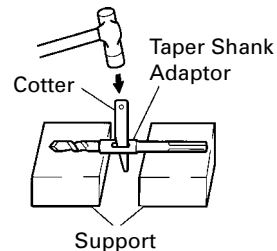

Fig. 13
- (1) Install drill bit with taper shank in the taper shank adaptor.
- (2) Turn the power on and drill a base hole.
- (3) After cleaning out dust with a syringe, attach the plug to the anchor tip and drive in the anchor with a manual hammer.
- (4) To remove the drill bit with taper shank, insert a cotter into the slot of the taper shank adaptor, place supports under the rotary hammer and tap the cotter with a manual hammer. (Fig. 13)